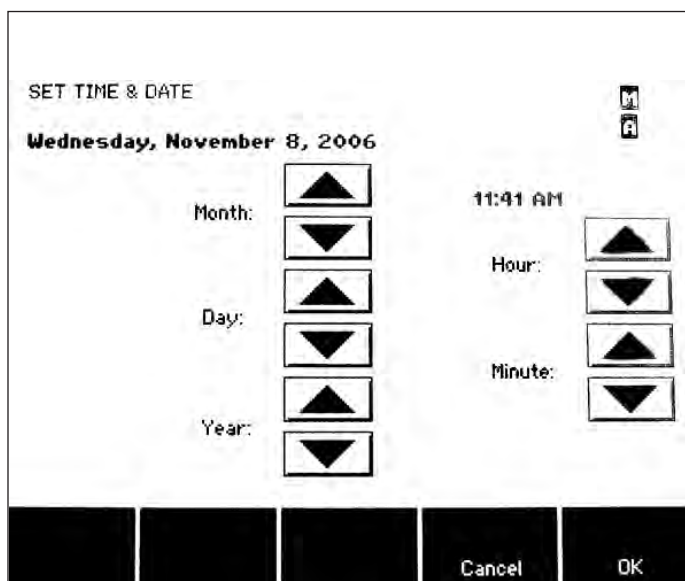

Fig. 2.8. Set Time & Date screen.
4. Touch the arrows adjacent date and time settings to adjust as desired (Figure 2.8); touch OK when finished to retain new settings and return to the Diag/Maint Functions screen.